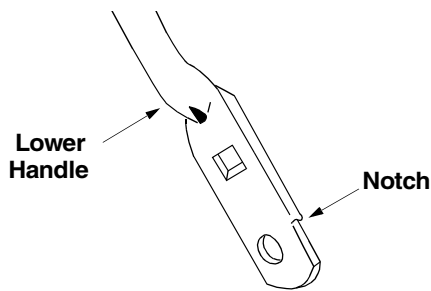

Figure 10
- Turn the lower handle around so the notches on the bottom of the lower handle are facing forward as shown in Figure 10 . Reassemble, placing the bottom holes in the handle over the weld pins in the handle mounting bracket. Reattach hardware.